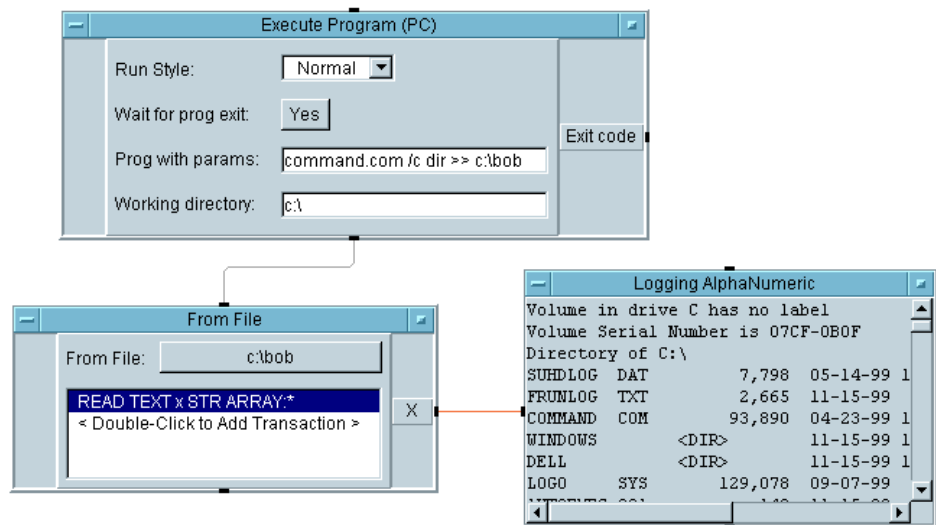

Figure 179 Listing the Files in a Directory
- c Click on the **SIZE: (10)** field to toggle it to **TO END: (*)**, then click **OK**. The transaction bar should now read: **READ TEXT x STR ARRAY:*** . This transaction will read the contents of the bob file.
- 5 Run the program. It should look like Figure 179.